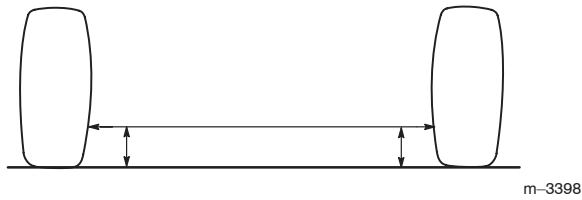

Figure 3
5. Reinstall the tie rod and tires. Torque wheel studs to 50 ft–lbs. Adjust the tie rod so that the toe–in (measure at the front of the tires) is within 1/8 of an inch when the wheels are in the straight ahead position. The measurement must be taken at the same height from the ground both front and rear (Fig. 3). After adjusting, the slots in the tie rod and the clamps should face downwards.